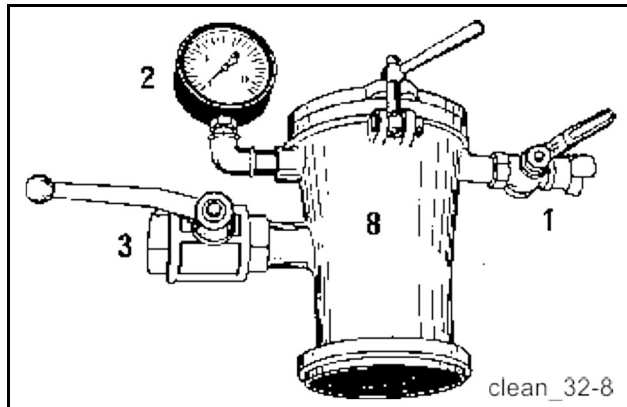

Fig. 125 Cleaning head
7. The cleaning head must be equipped with a functioning pressure gauge (2) and a large-dimensioned blow-out cock (3) (**Fig. 125**).
10. Only work on unpressurised pipelines. Open blow-out cock (3) (**Fig. 125**). Concrete emerging under pressure can injure persons.